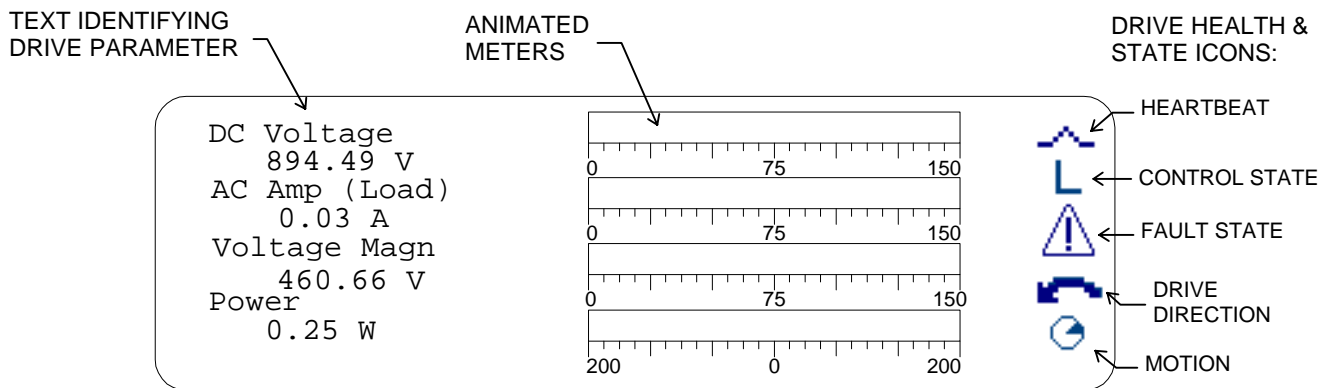

Figure 2-2. Sample of the Status Screen Display
- The **Status screen** uses animated meters (bar graphs) with associated text to display drive performance data for four parameters (see Figure 2-2). This is the default screen that displays after drive startup (following an initialization screen).
These icons are displayed on the righthand side of every screen. There are five positions, with each representing a specific functional group, as follows (see Figure 2-2):
The animated meters of the Status screen display (see Figure 2-2) are bar graphs. Table 2-3 defines characteristics of the bar graphs for the four types of parameters displayed.